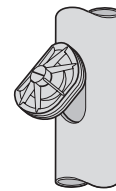

Fig. 17d Step 4
**Step 5** – Push inner part of door into hole at a slight angle while turning slightly (Fig. 17d)